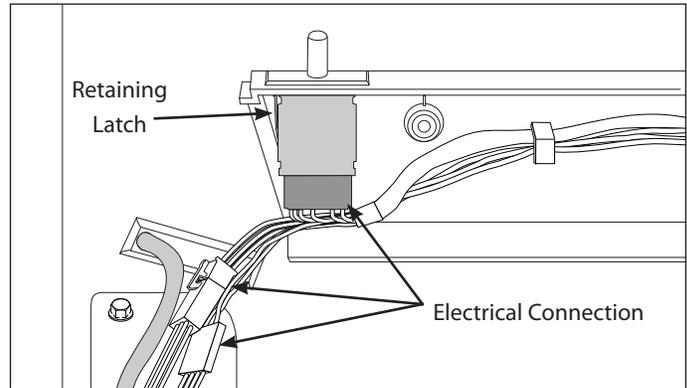

Figure 6-27.
2. Extract the screws securing the eye brow trim in position, then lift it up and expose the underside. (See Figure 6-27)